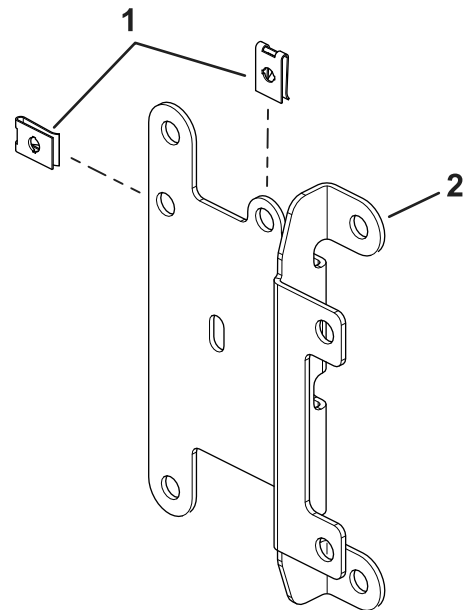

Figure 2
2. Install the U-type speed nuts to the fuse-mount plate (Figure 2).